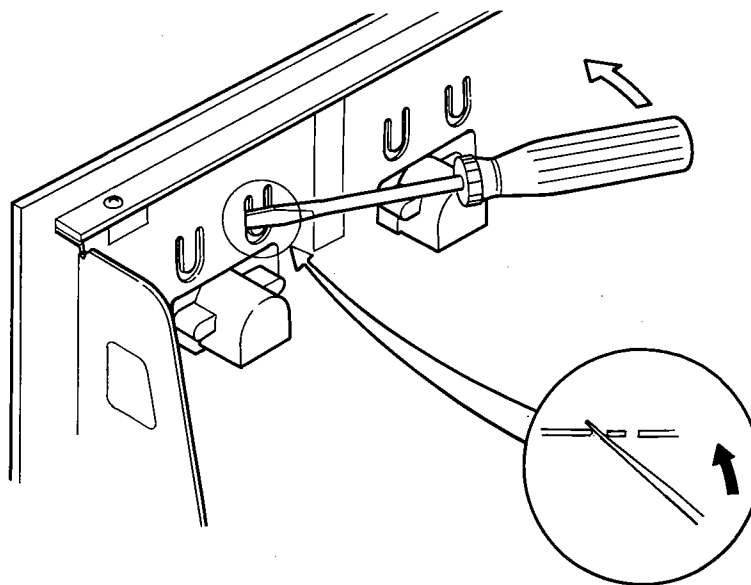

Fig. 31
1. Adjust as shown in Fig. 31.